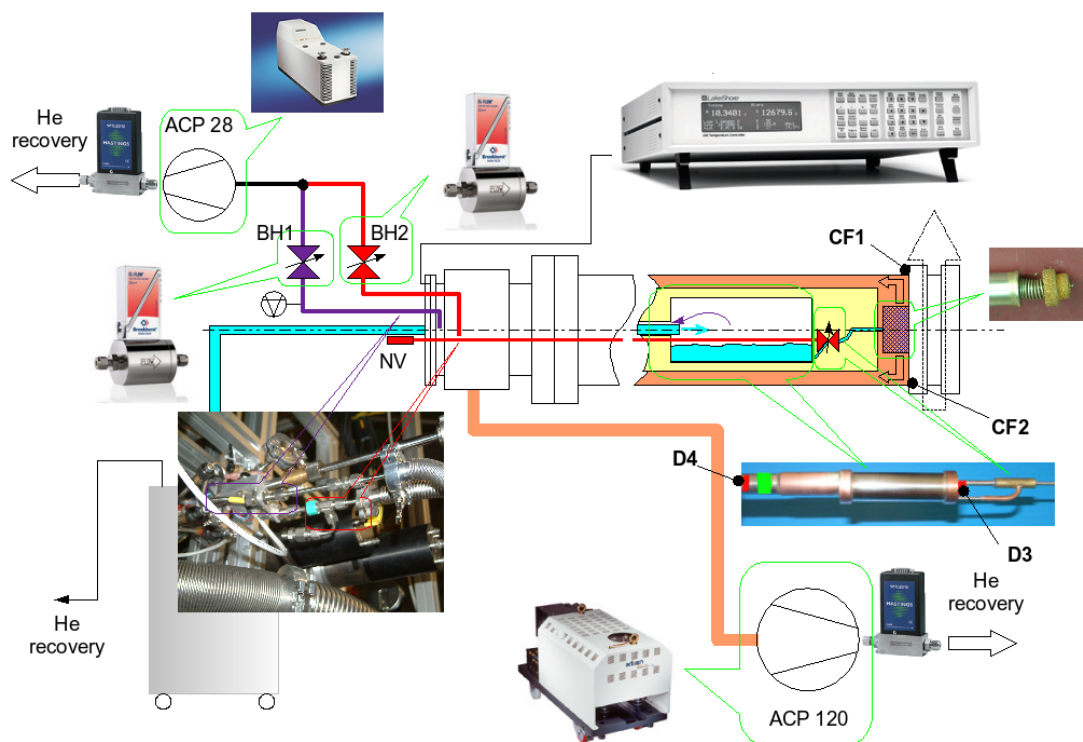

Figure 7.32: Schematic diagram of the LowTemp-2 cryostat and pumping system.
- Connect the pumping lines via two Swagelocks (do not interchange them). The transfer line JC needs to be connected to the Bronkhorst flow controller, and the needle valve JC to the NV2 block (see schematic overview in Fig. 7.32).